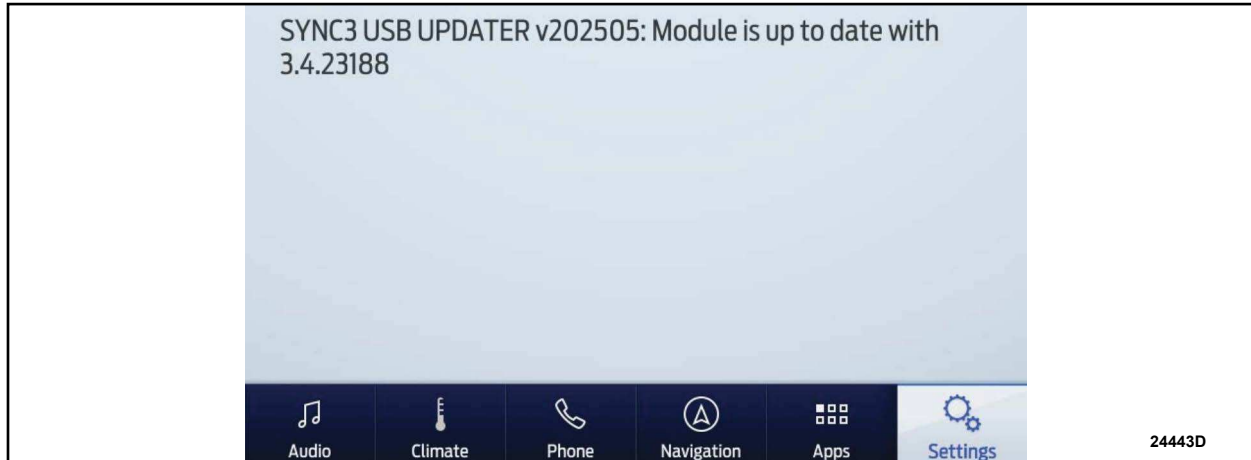

FIGURE 5
13. SYNC 3 USB update will display on SYNC screen, confirming the update is complete. See Figure 5.